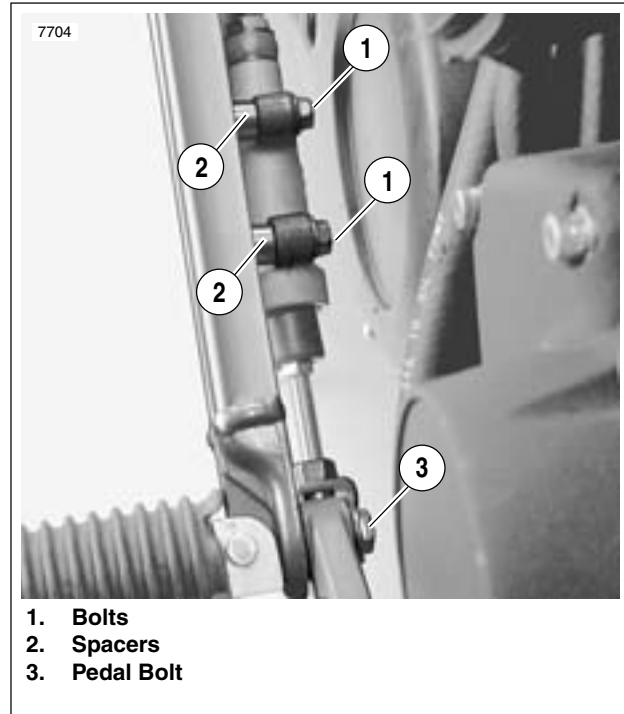

Figure 2-96. Master Cylinder Mounting
1. See Figure 2-96. Remove master cylinder bolts and spacers.